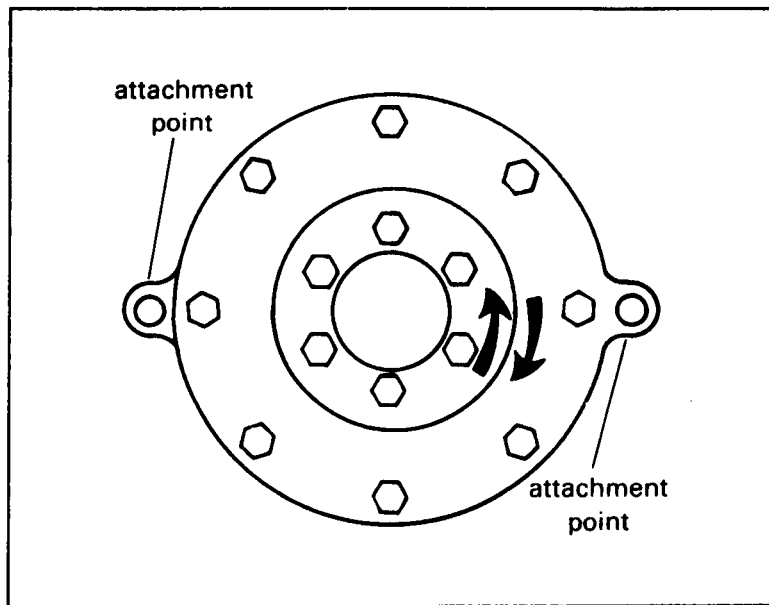

**Figure 11-9. Stabilizer bar with vane dampers.**
- **Stabilizer bar damper.** Some helicopters have vane-type dampers that control the degree of sensitivity with which a helicopter responds to movements made by the pilot on the flight controls. (See Figure 11-9.) These dampers are mounted on a bracket attached to the helicopter mast (main shaft). The damper arms are interconnected with other parts of the flight control system.